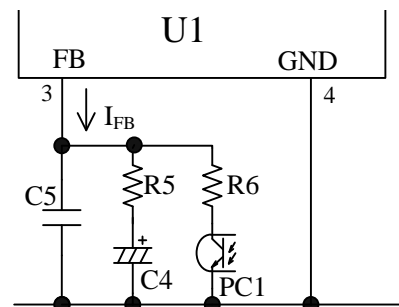
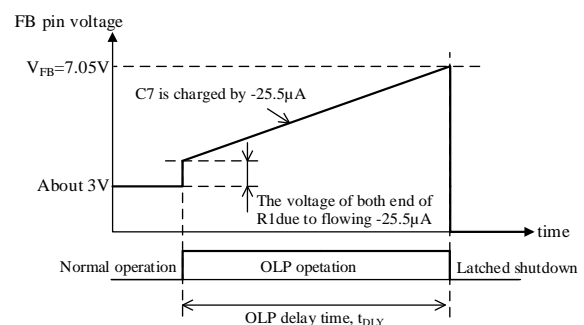

Figure 8-29. FB Pin Peripheral Circuit
Figure 8-30. OLP Operation
Figure 8-29 shows the FB pin peripheral circuit, Figure 8-30 shows the FB pin waveform at Overload Protection (OLP) operation.
Given the time that until the FB pin voltage reaches to V_{FB} as the OLP delay time, t_{DLY} (refer to Figure 8-30). t_{DLY} is calculated Equation (18).